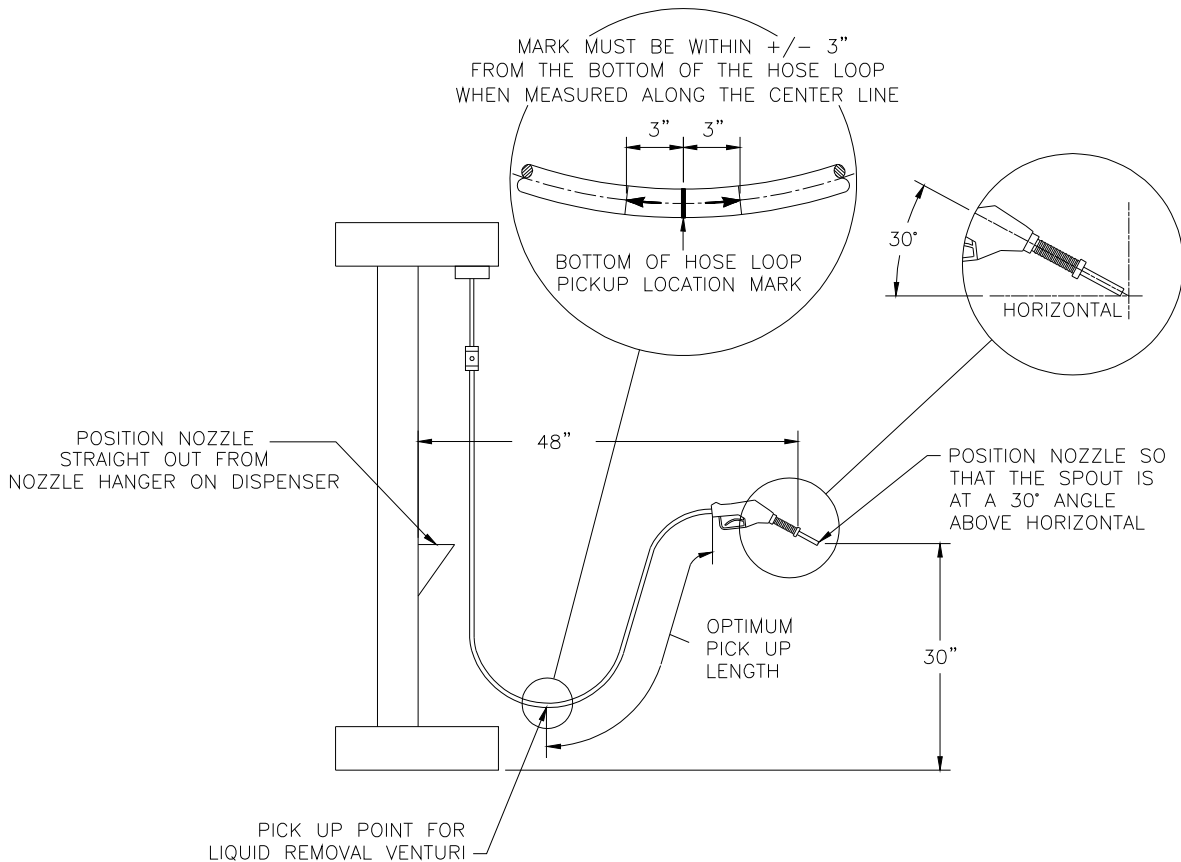

FIGURE 1
- 4 Hold the nozzle straight out from the dispenser so that the end of the compressed bellows (simulate when the bellows is compressed in the filler neck of a car) is 48 inches away from the front face of the dispenser (see Figure 1). Hold the nozzle so that the tip of the spout is 30 inches above the pavement and the spout is at a 30° angle above the horizontal plane (see Figure 1). When the nozzle and hose are held in the position shown in Figure 1, the mark on the outer vapor hose should be within 3 inches of the bottom of the loop (see Figure 1).
5 If the mark on the hose is not within the tolerance shown in Figure 1, the installer may:
- a) Hold the nozzle and hose in the position shown in Figure 1;